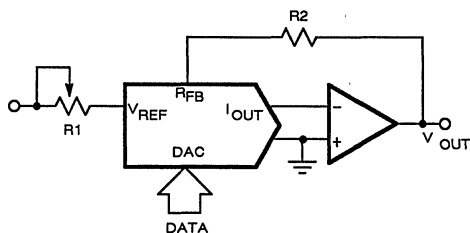

Figure 8. Gain Trim Circuit for CMOS DACs
**Gain Trim Circuit.** One may compensate for gain error and the ideal full-scale value may be restored by using a fixed resistor and a trim potentiometer, as shown in Figure 8.